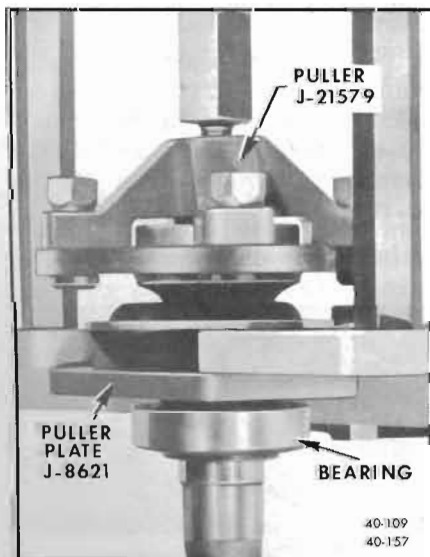

Figure 40-157—Removing Rear Wheel Bearing
2. Press wheel bearing off, using Puller Plate J-8621 with Remover J-6525 either in a press or in a set-up using Ram and Yoke Assembly as shown in Figure 40-157.